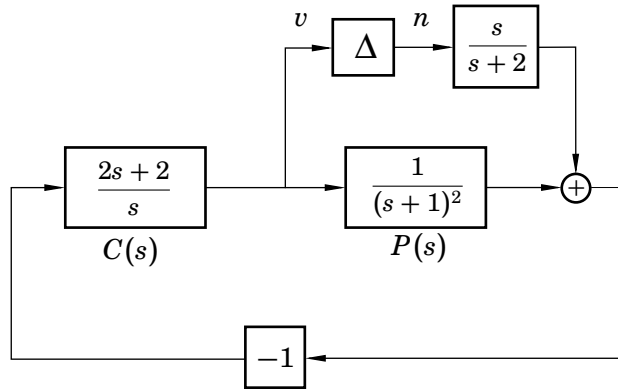

Figure 2.2 System in Problem 2.2.
- 2.2** Consider the system in Figure 2.2.